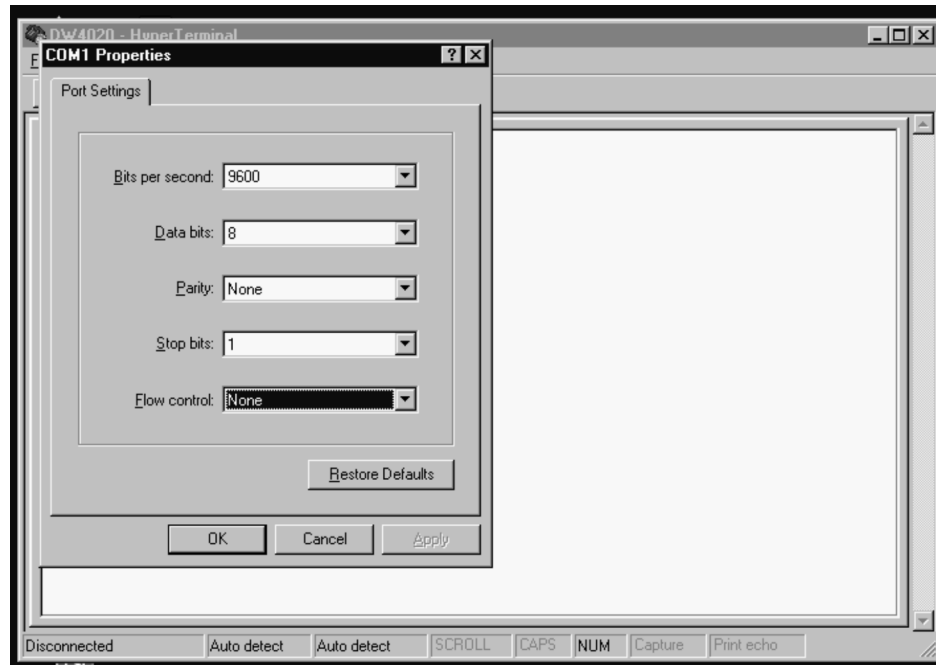

Figure 75: COM1 Properties window and pull-down menus
- f. Configure the Port Settings by selecting the parameters below from the appropriate pull-down list (see Figure 75).